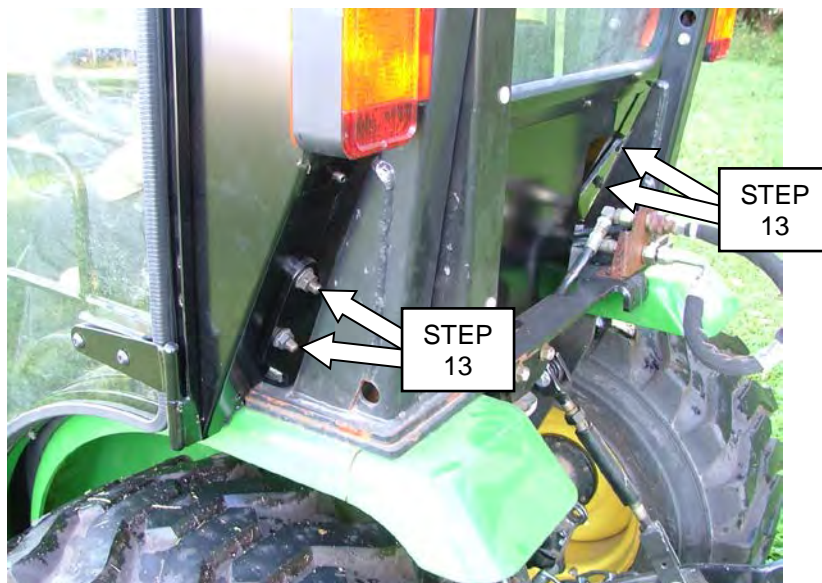

FIGURE 7
13. Lower cab onto tractor and align rear mount holes of cab with rear mount bracket holes. Secure using (**Figure 7**);